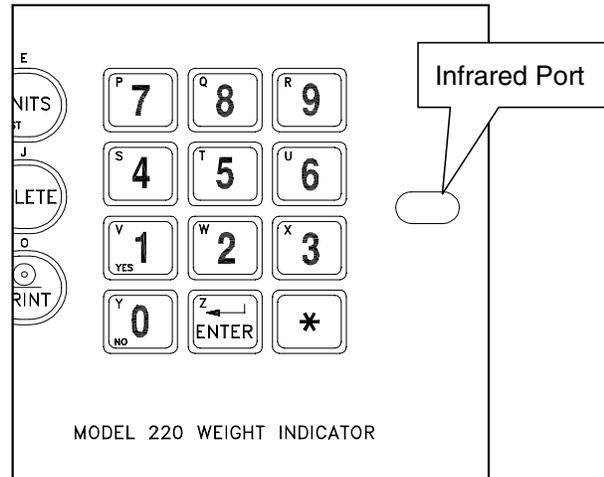

Figure No. 14
This section describes the infrared (IR) data port, standard on the model 220 weight-indicating instrument. The IR port is located on the front panel of the indicator on the right side of the numeric keypad (see Figure No. 14)